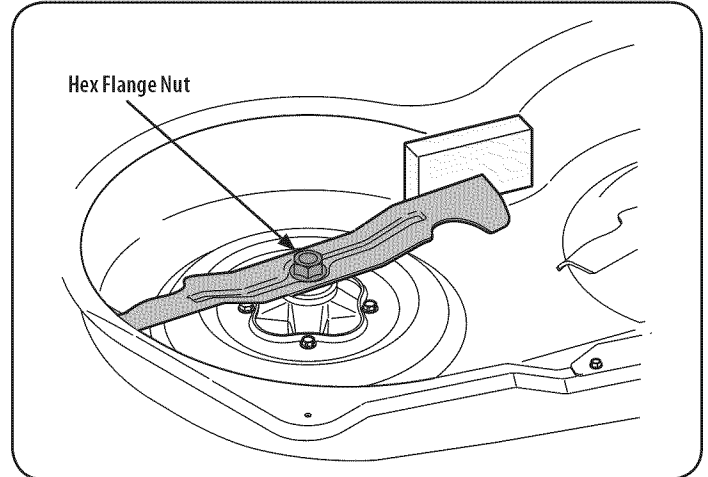

Figure 19
2. Place a block of wood between the center deck housing baffle and the cutting blade to act as a stabilizer. See Figure 19.